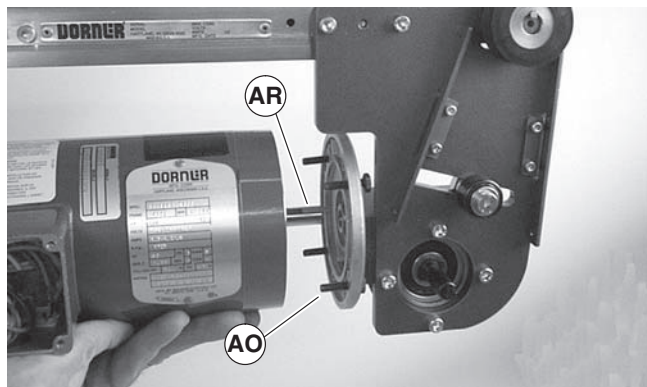

Figure 34
5. With key (Figure 34, item AR) in keyway, slide motor and gear reducer together. Install screws (AO) and tighten.